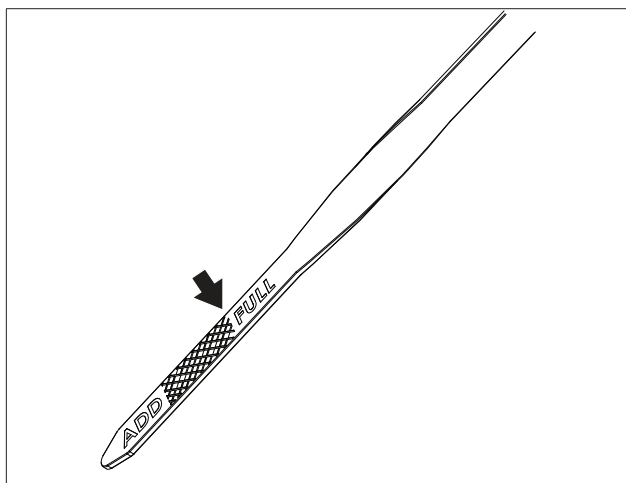

Figure 12
3. Remove the dipstick. Wipe it dry with a clean cloth and completely reinsert it into the dipstick tube. See figure 12, page 25.
9. Fill the engine with the proper amount of engine oil. See Figure 12.